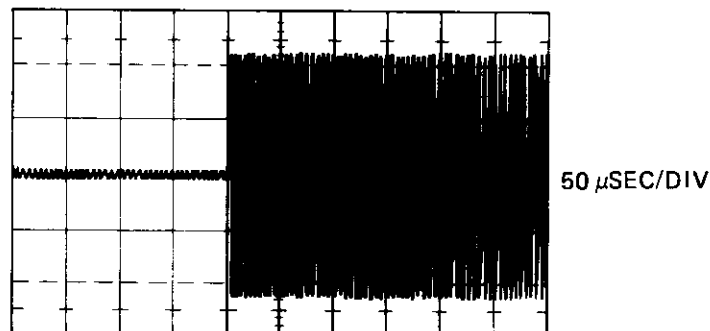

Figure 2-3. Index Pulse and Data Burst
- f. The start of the data burst should lag the negative going edge of the index pulse by 200 μ sec $\pm$ 50 μ sec. (Figure 2-3.)